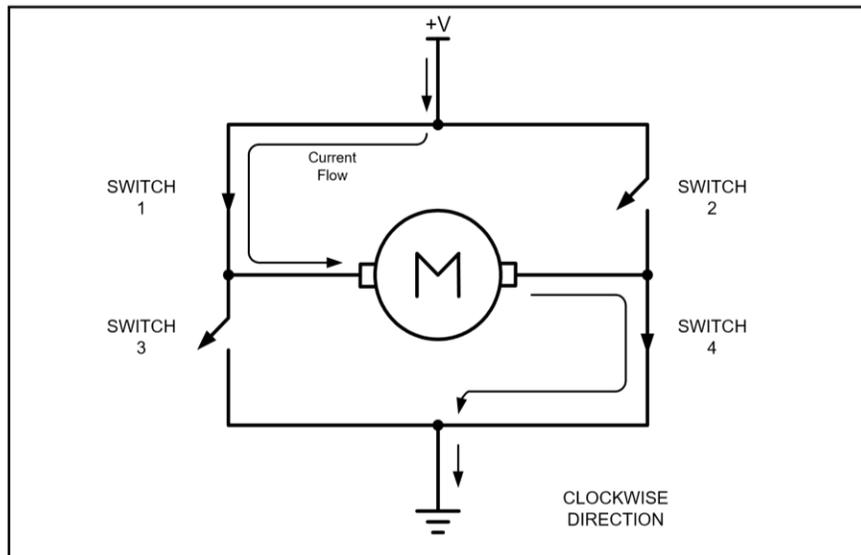

Figure-2 H-bridge Motor Clockwise Configuration
Figure-2 stator windings configuration
- Figure-2 shows the switch configuration for turning the motor in one direction. When switches 1 and 4 are closed, current is allowed to pass through the motor